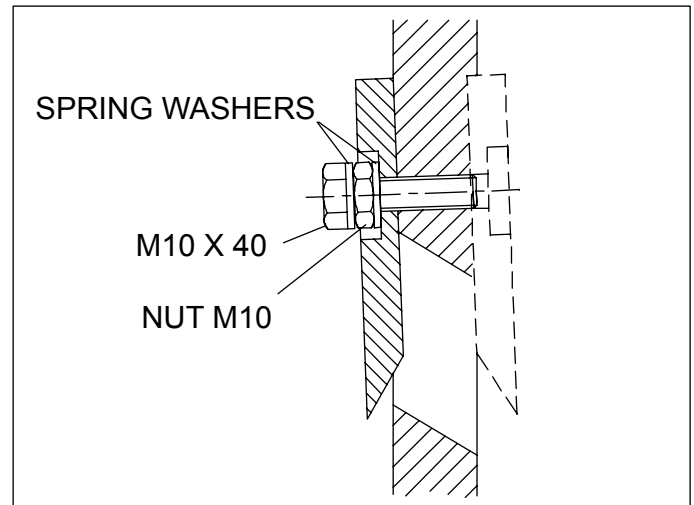

Fig. 7. Remove one knife and attach it to the other side of the disk. The dotted line shows the knife in its normal cutting position.
3. Place another spring washer on the bolt and turn the bolt through the knife into the disk. See Fig. 7. Tighten the bolts to 45 Nm. Attach the knife using all four bolts.